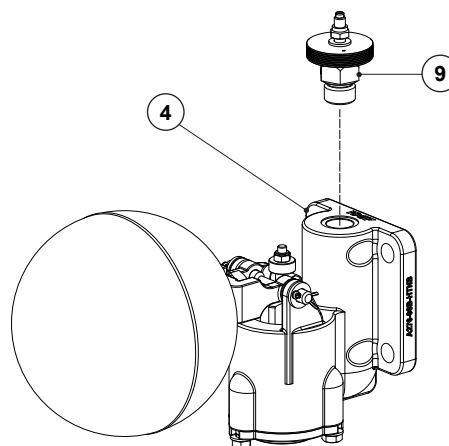

Fig. 6
1. Undo the nuts (10A) gradually in a crisscross pattern and separate the cover (2) from the body (1).
2. Remove the body gasket (3), unscrew bolts (4A), remove gasket (5) and mechanism assembly (4, 6, 7, 8, 9).
4. Clean body (1) and cover (2) surfaces thoroughly, leaving no remaining graphite leftovers.
5. If only the automatic air vent (9) needs replacing, secure the seat (4) tightly in a vise with soft jaws (secure by the seat body and not the seat nut) and unscrew the automatic air vent (9) – see Fig. 6.
7. Apply a suitable silicone sealant to the thread of the new automatic air vent (9), and tighten with the recommended torque – see section 9.5 – Tightening torques.
8. Fit a new gasket (5) and place the mechanism assembly (4, 6, 7, 8, 9) on the body (1) with the automatic air vent (9) pointing upwards.
9. Secure the seat (4) by tightening the bolts (4A) with the recommended torque – see section 9.5 – Tightening torques.